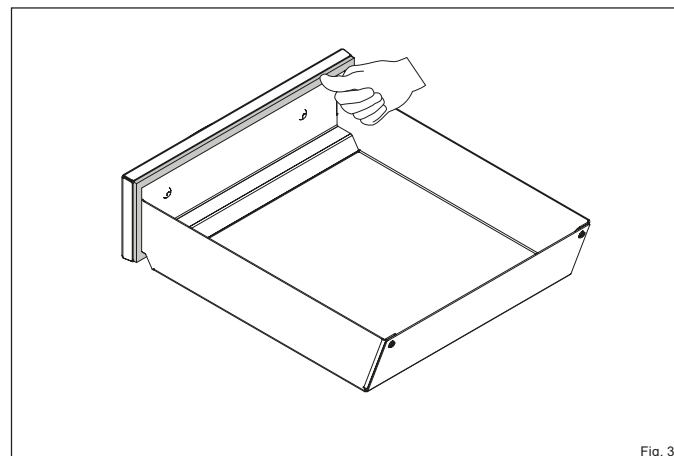

Fig. 30
- Push the new seal evenly into the rail of the ash drawer (Fig. 30).